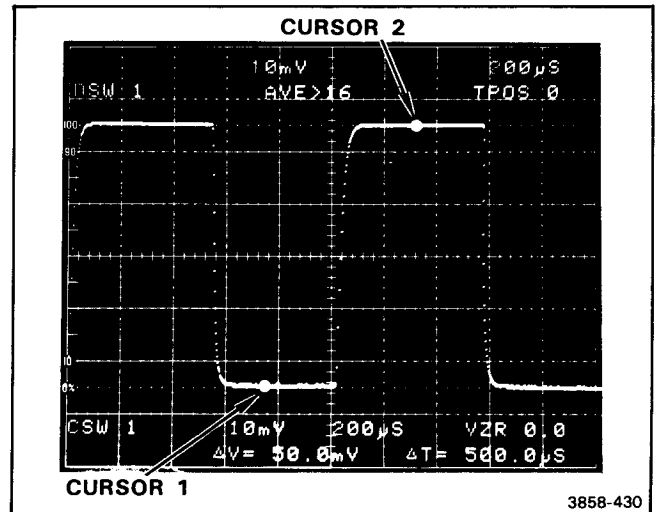

Figure 4-2. CURSORS 1 and 2 used to measure p-p voltage.
- Set CURSORS to  $\Delta$ ON and position CURSORS 1 and 2 as shown in Figure 4-2.